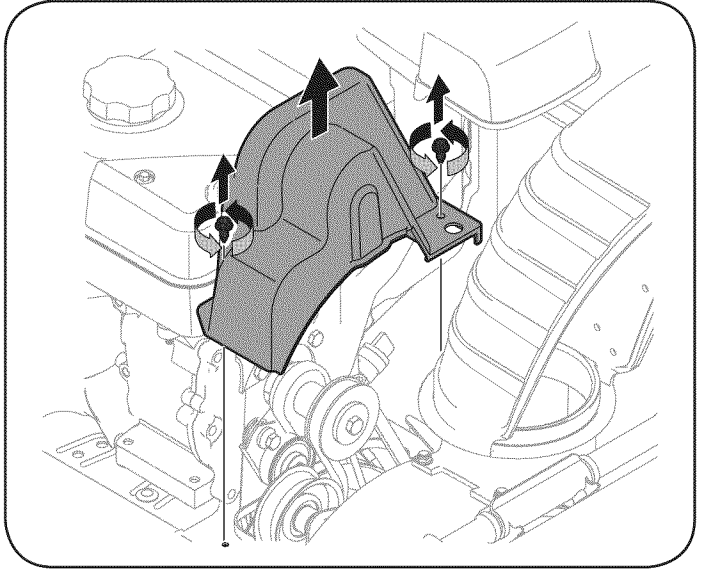

Figure 22
2. Remove the plastic belt cover on the front of the engine by removing the two self-tapping screws. See Figure 22.